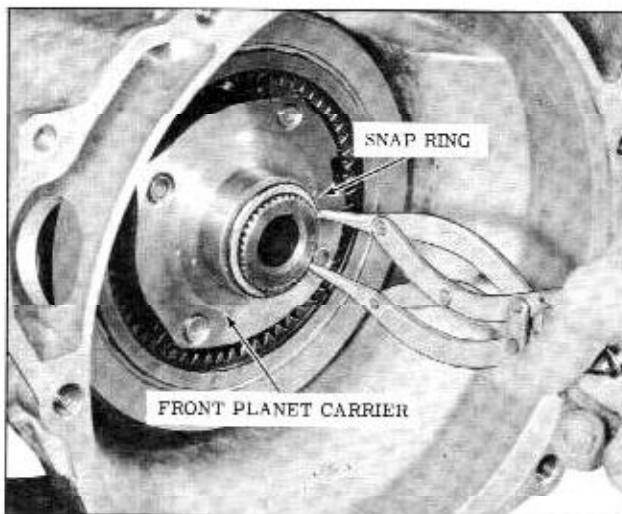

Fig. 3-109 Installing Snap Ring
22. Install front unit carrier to rear planet carrier shaft snap ring while holding rear carrier forward. (Fig. 3-109)